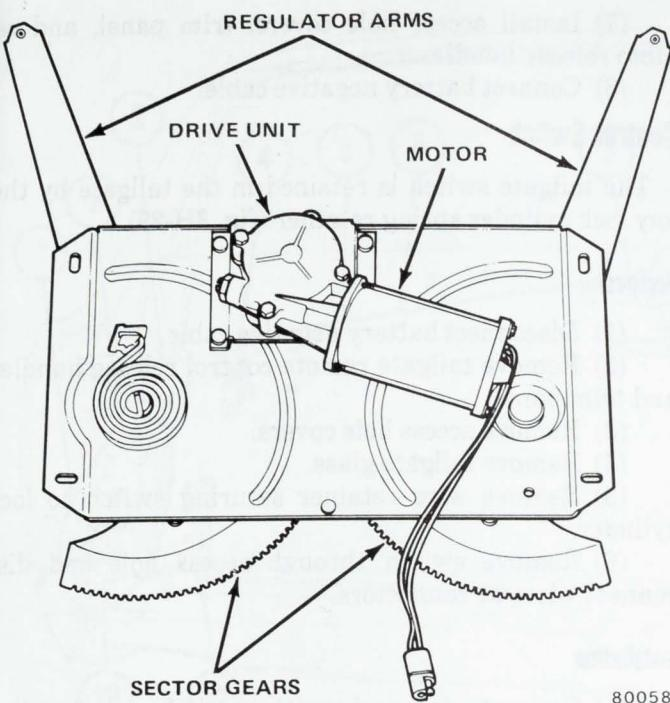

Fig. 3H-26 Tailgate Regulator—Removed
- (1) Remove serrated pivot pin with a pin punch (fig. 3H-27).
- (2) Remove crank handle and return spring.
- (3) Hook spring onto replacement crank handle.
- (4) Position crank handle on handle assembly and insert spring into handle assembly.
- (5) Attach crank handle to handle assembly with serrated pin.